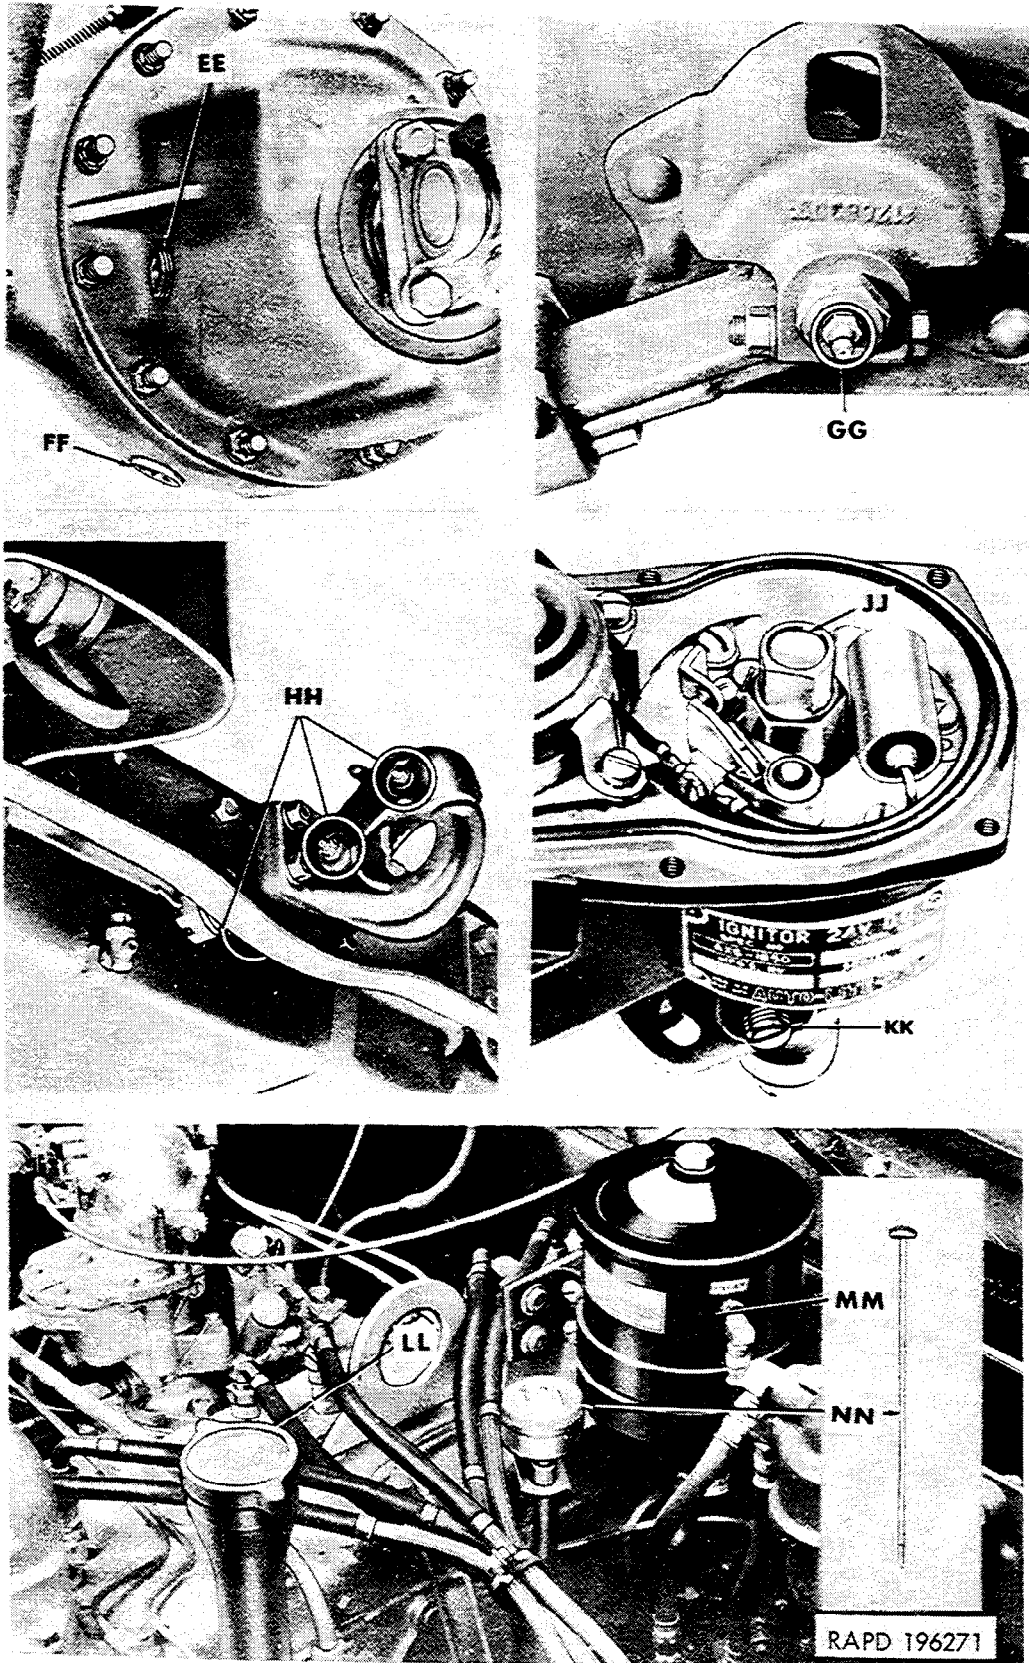

Figure 2-145. Localized lubrication points (EE through NN).
(2) At each inspection, or as often as necessary, remove the vent from the housing and clean in drycleaning solvent or volatile mineral spirits. Dry with compressed air and inspect for restriction of the air passage and faulty operation.
(3) Install the air vent, replacing it with a new one, if warranted. Screw the vent into the housing.
b. *Filler Plug.* The filler plug (EE, fig. 2-145) is a 3/4-inch pipe plug. Check the filler plug each time the axle is serviced, and replace if necessary. No gasket is required.